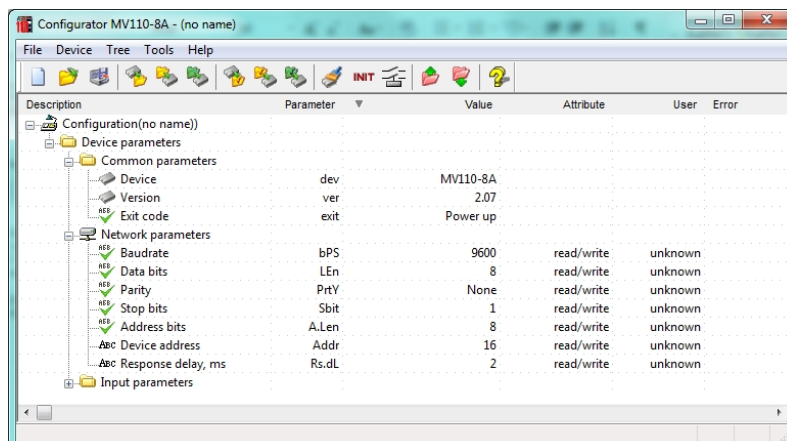

Fig. 8.2 M110 Configurator main window
- Main window of the configurator is opened. Now saved parameters of the module can be read out (refer to Figure 8.2).